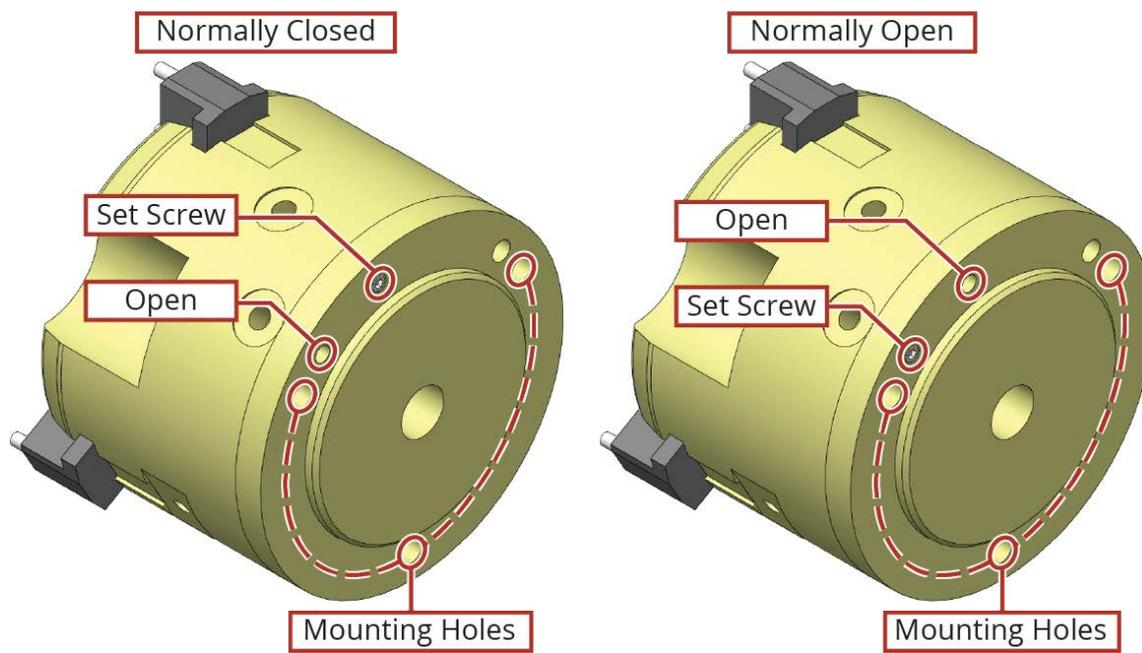

Figure 2-12: Air Inlets in Three-Jaw Grippers
3. Figure 2-12 shows the locations of the set screws in the gripper based on which configuration is desired. Move the set screws as necessary.